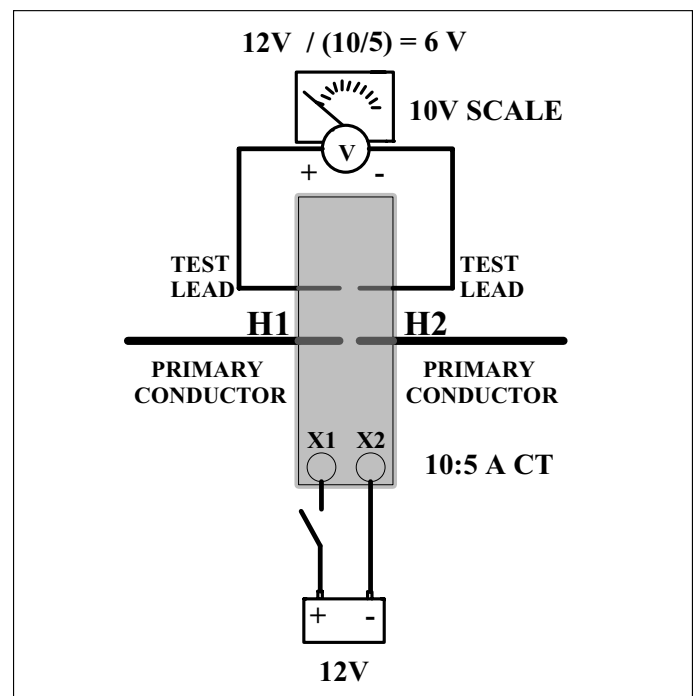

Figure 3 — DC Polarity Test Circuit Window Type CT
1. Connect the positive of the voltmeter to the H₁ (marked) terminal of the high-voltage side of the CT and the negative lead to the H₂ as shown in Figure 3.